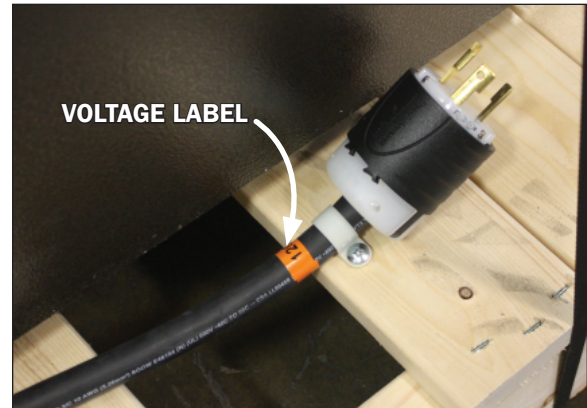

Fig. 10 Main power cord voltage label
Prior to plugging in and starting up the case always check the data tag located on the left end exterior panel or top interior of the case, as well as the voltage label found on the main power cord (Fig. 10) which can be found at the rear base panel. **Note: Check that the voltage of the receptacle you are going to use for power and the voltage required for the case match.**
1. After the main power cord (Fig. 10) located at the rear base panel of the case is plugged in and the power switch flipped to ON the case should begin normal operations.